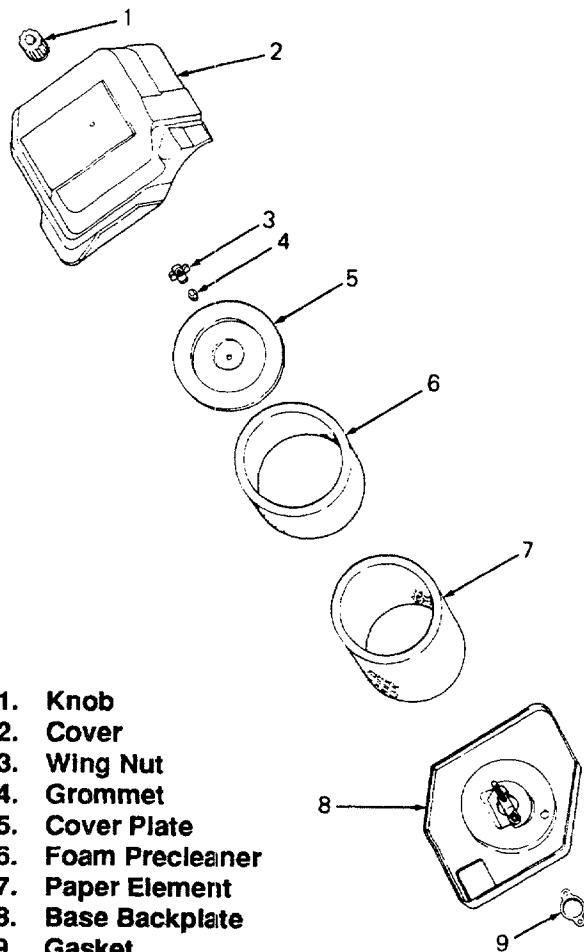

Figure 25. Air Cleaner Elements
2. Remove the foam precleaner by sliding it up off the paper element. (See Figure 25.)
- Remove the foam precleaner by sliding it up off the paper element. (See Figure 25.)